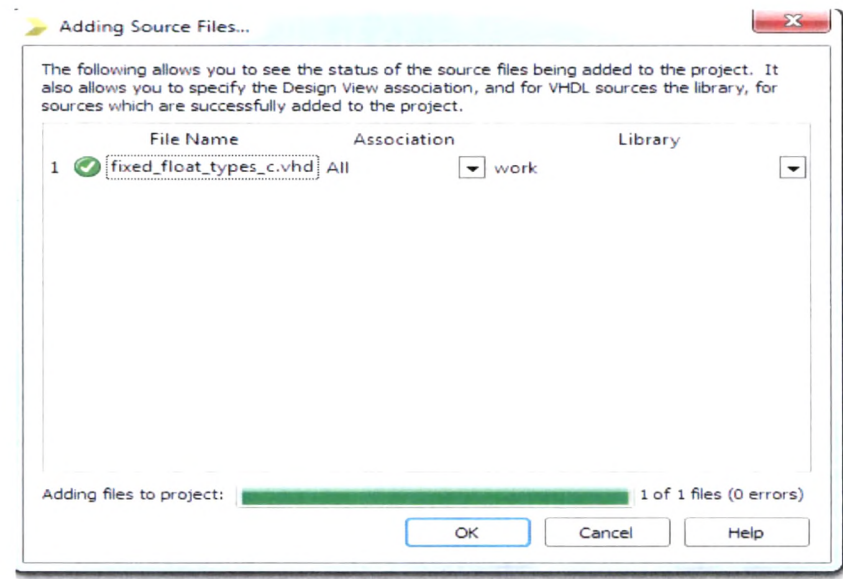

Figure A.4: Adding VHDL Test Bench
- 2. In the next window, make sure that the association and libraries have been properly specified for the tutorial sources. Compare setting with those in Figure A.4.